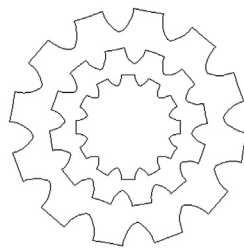

FIGURE 24.31
- Step 3.** Carefully place the three profiles one on top of another using their center points and rotate profiles 2 and 3 (the medium and the largest ones) 10° and 20°, respectively, as seen in Figure 24.31.